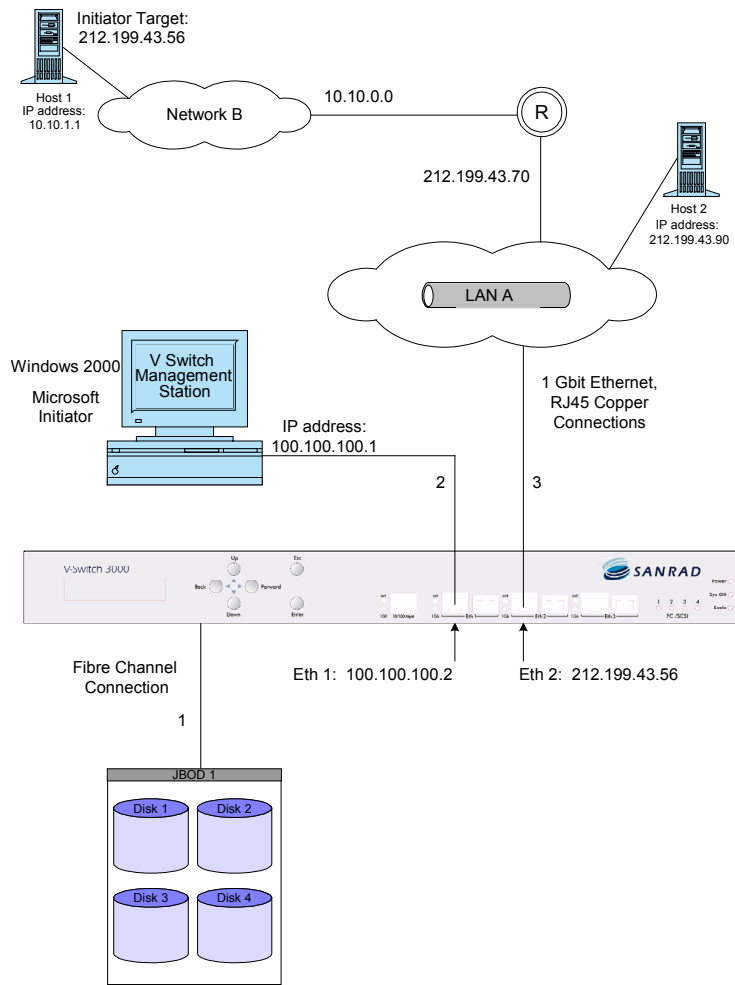

Figure 106. IP Routing Topology
- One computer terminal with a network card (NIC) acting as the management station for the V-Switch connected to the Ethernet port Eth1 via a 1 Gbit Ethernet RJ45 cable. See #2 in Figure 106, page 264.
- One LAN connection to Ethernet port Eth2 via a 1 Gbit Ethernet RJ45 cable. See #3 in Figure 106, page 264.
Your network should mimic Figure 106, page 264.
Attach an HSSDC-DB9 fibre channel cable from your JBOD appliance to one of the storage ports on the back panel of the V-Switch. See #1 in Figure 106, page 264. Depending on your appliance, you need to plug a terminator into one of the JBOD ports.